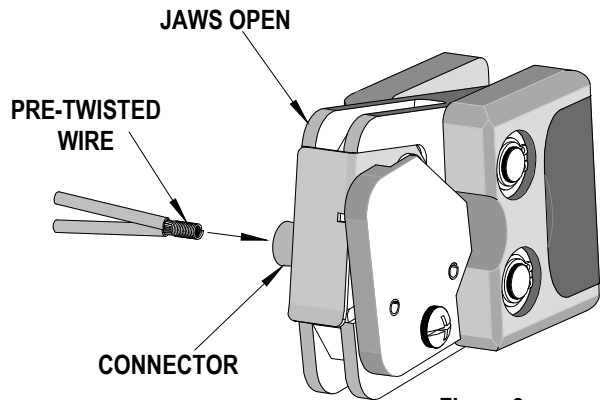

Figure 2
2. Place pre-twisted wire into closed-end connector. Push on the wire to assure it is still fully seated in the connector. See Figure 2 and 3. Cycle the tool.